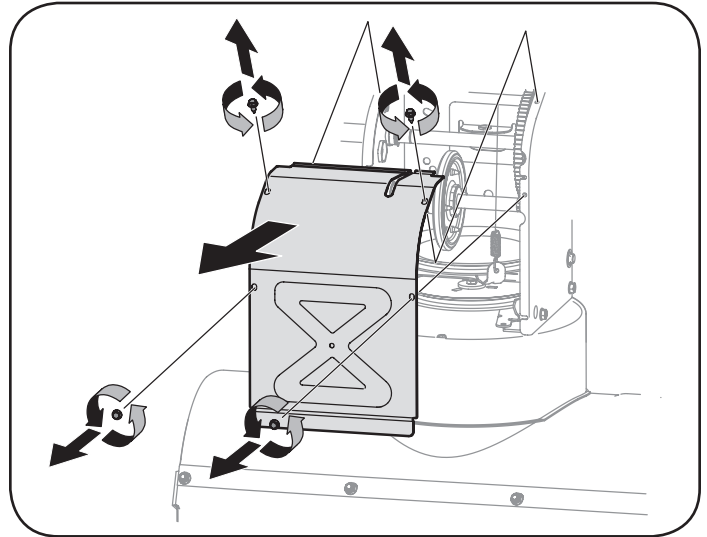

Figure 30
6. Remove the frame cover from the underside of the snow thrower by removing four self-tapping screws which secure it. See Figure 30.
3. Remove the frame cover from the underside of the snow thrower by removing four self-tapping screws which secure it. Refer to Figure 30.